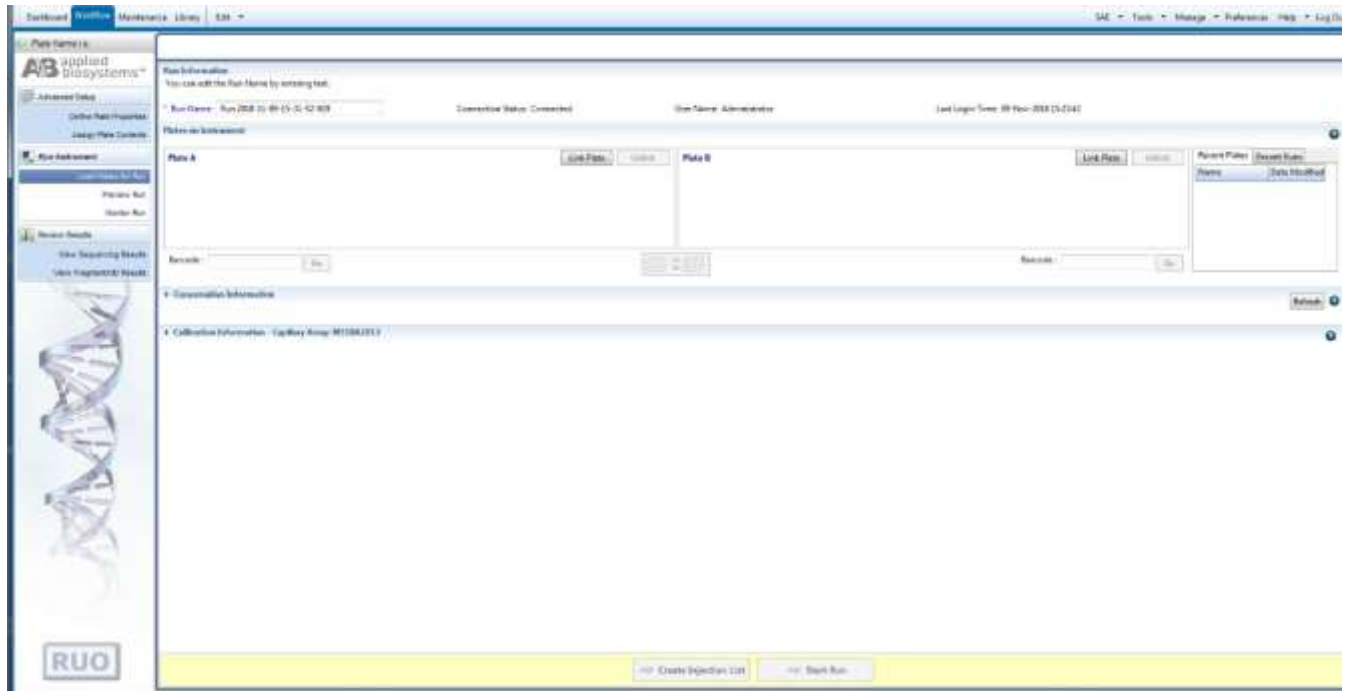

Figure 13. Screenshot for the “Run Information” window on Applied Biosystems 3500 Data Collection software
- In the Run Information window, give a Run name (Figure 13). Select “Start Run” after loading the plate.